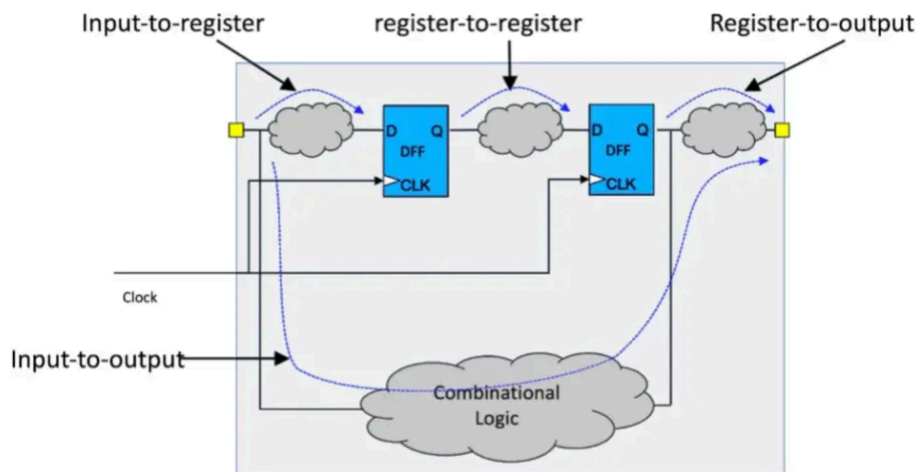

Fig. 17 Examples of Timing Paths
There are four types of timing paths for a given design unit based on the type of the starting and ending points of the timing path. A timing path may start at the clock pin of a flip-flop or an input port. It ends at the data input pin (D) of a flip-flop or an output port. Hence there are four types of timing paths (Fig. 17):